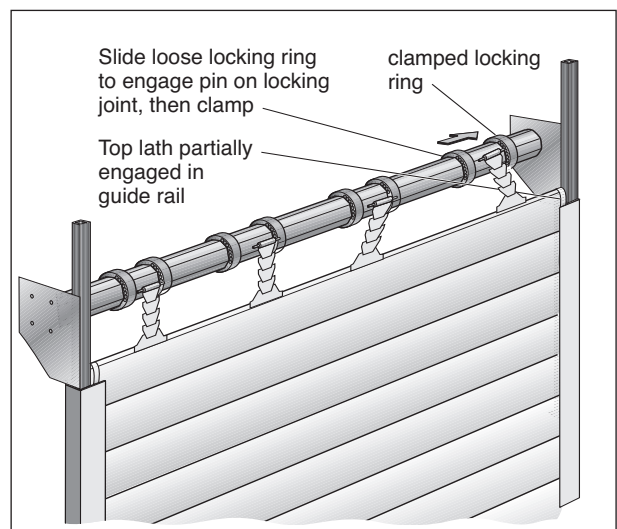

Fig 24
**8.3** There are a pair of locking rings positioned on the shaft for each locking joint, the number of locking rings will vary according to curtain width. Clamp the outermost rings to the shaft approx. 150mm in from each end and equally space the other pairs as shown in fig. 24.
Slide each locking joint along the top lath and engage the fastening pin into the appropriate hole in the respective clamped locking ring. (Four holes are provided in the rings so that shaft position is not critical). Slide the loose locking ring to engage the other end of the fastening pin and secure the loose locking ring to the shaft using the clamping screw. Repeat this for each locking joint. (see *Fig 24*).